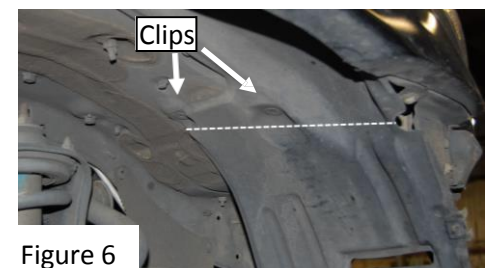

Figure 6
15. Next, trim or tuck the fender liners. To trim the liners, cut them just forward of the clips that hold them in place at the top, front of the fender. The clips and general trim location are shown in **Figure 6**. To tuck the fender liners, you can pull the loose end of the liner up to the support directly under the headlights and secure them using zip-ties through existing holes.